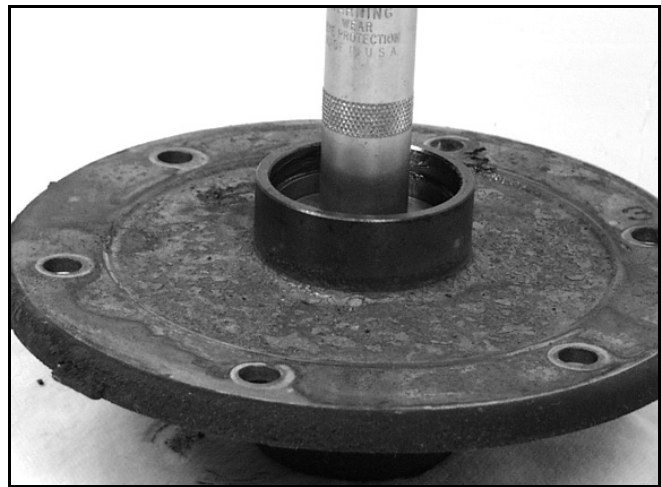

Figure 126
17. Press in lower bearing cup until it firmly contacts the snap ring (Figure 126).